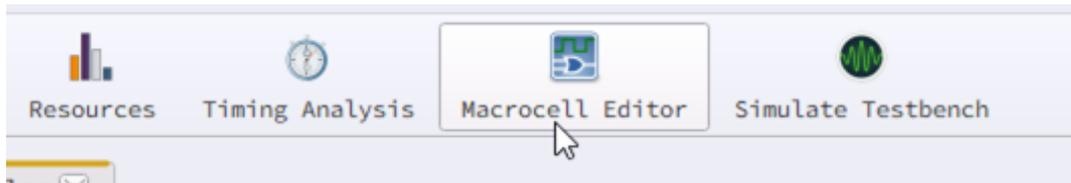

Figure 4: Macrocell Editor Icon
3. Launch the Macro Cell Editor Window from the toolbar on the top of ForgeFPGA Workshop software (see Figure 4).